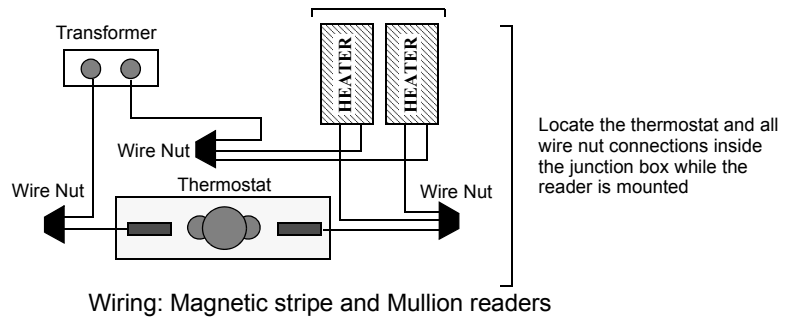

Figure 3.9: Heater installation on Standard and Mullion Mounting Plates
1. Remove the backing from the double-sided adhesive tape on the heater strips. Firmly press the strips onto the inside of the mount plate (see Figure 3.9).